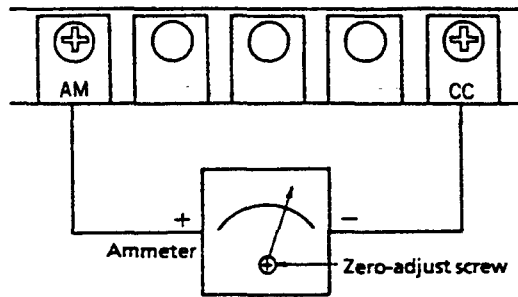

Figure 4.7 Terminals to use for connecting an ammeter to the inverter
1) —	Adjustments should be done figure 4.7 shows terminals to use for connecting an ammeter to the inverter during a run. For a trial, you can run your inverter at 50Hz. 50.0
Figure 4.7 shows terminals to use for connecting an ammeter to the inverter.